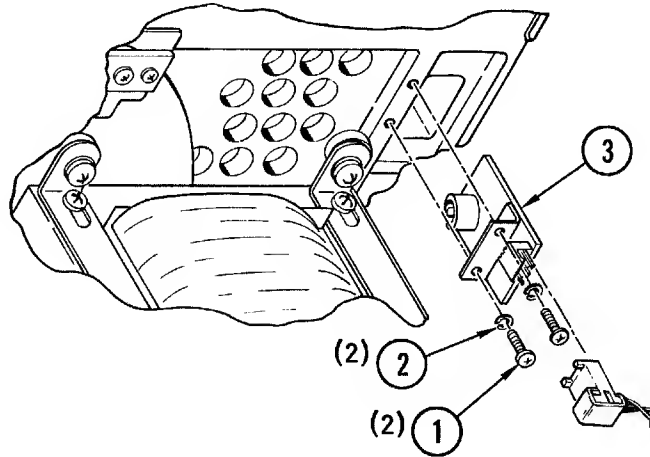

Figure 4-18. Tape-in-Path Sensor, Transmitter
4-32. Removal and Replacement (Figure 4-18). Place the transport in service access position in accordance with paragraph 4-3 and proceed as follows:
- b. Remove two screws (1, Figure 4-18) and lockwashers (2) and pull transmitter (3) carefully through hole from back of top plate.
- c. Position replacement sensor transmitter carefully in place through hole from back of top plate and secure with screws (1) and lockwashers (2).
- b. Remove attaching screw (1, Figure 4-18), lockwasher (2), and flatwasher (3) and remove tape-in-path sensor receiver (4). Save attaching parts for reassembly.
- c. Install replacement receiver using screw (1), lockwashers (2) and flatwasher (3).